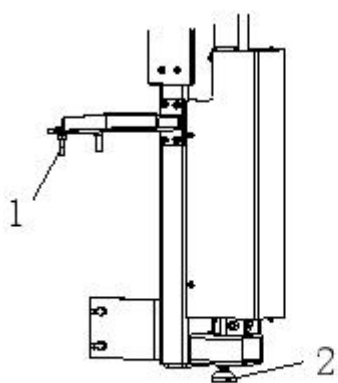

Fig 10
- 2) Fix the column on the body with four screw1 and adjust the support 2 to a suitable location; (Fig 10)